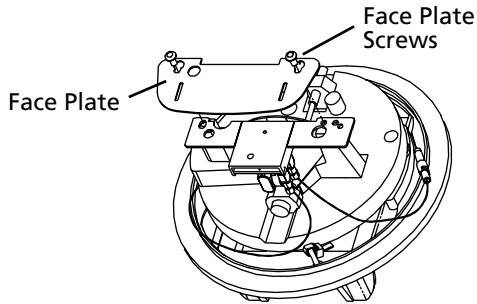

Figure 31. Attaching Face Plate
8. Keeping the WOPI bracket parallel to the meter disk, attach the face plate and tighten the screws. See Figure 31.